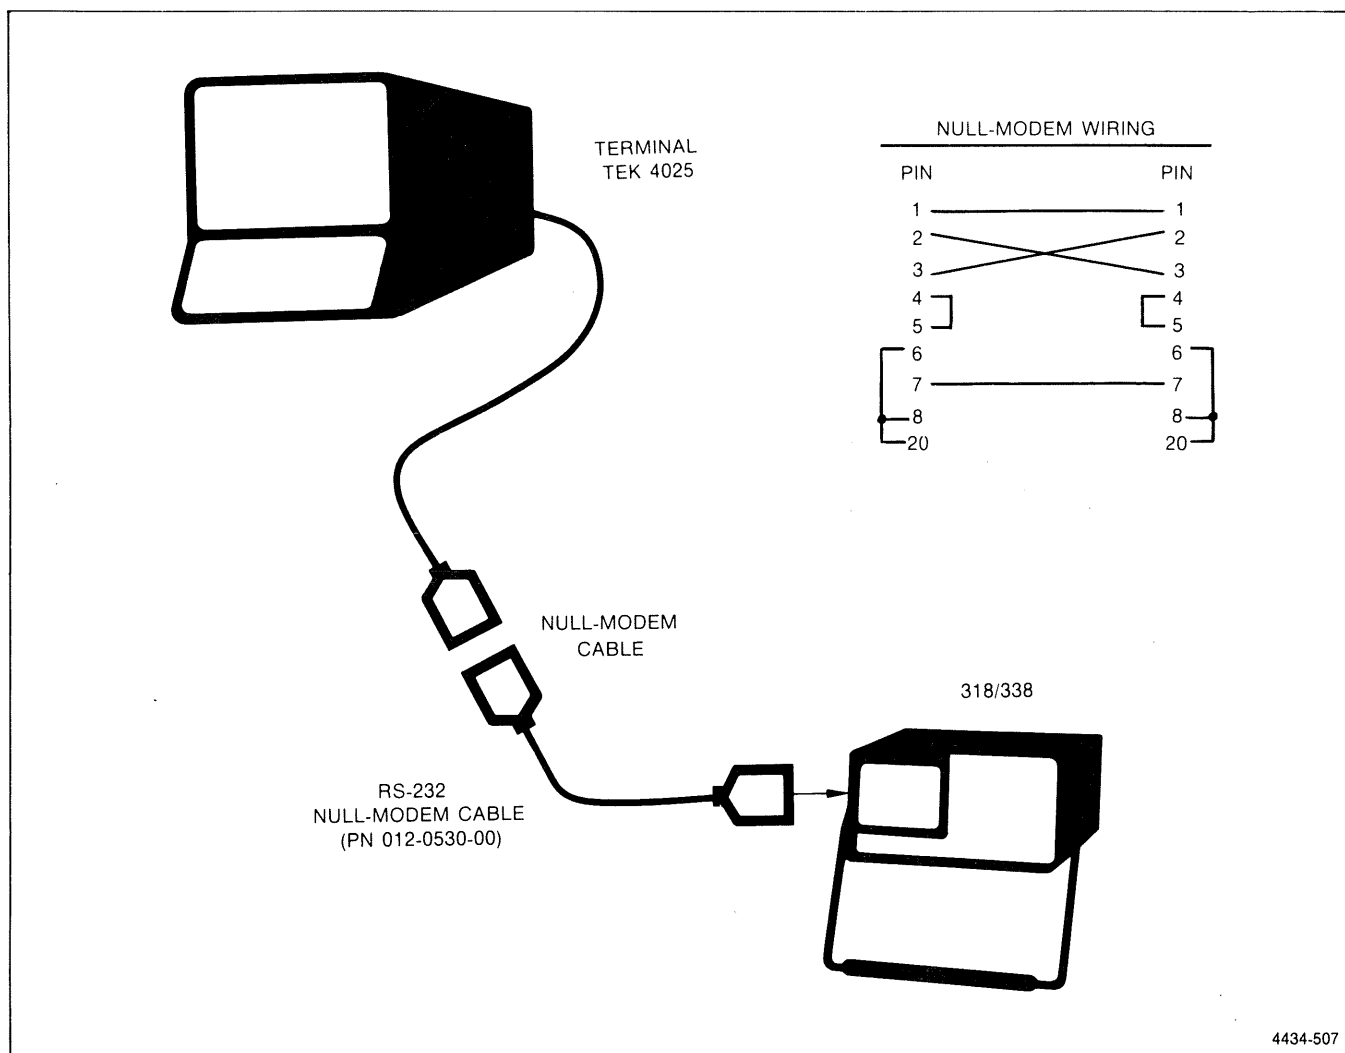

Figure 2-13. 318A Setup for RS-232C control.
- a. Connect the test setup as shown in Figure 2-13.